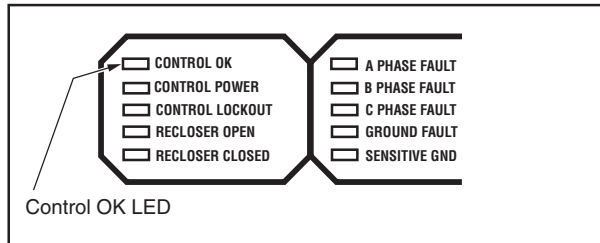

Figure 34. Control OK LED
3. Verify the Control OK LED is illuminated on the control operator panel (**Figure 34**). This indicates the presence of DC power.